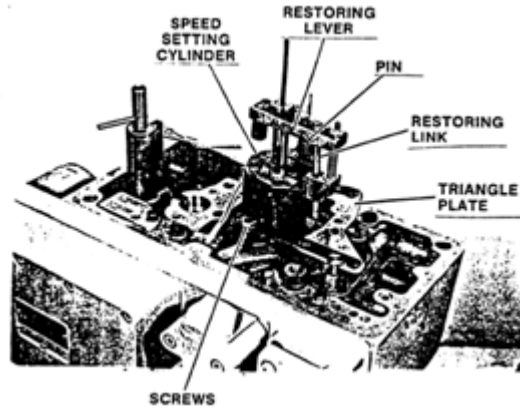

Figure 5-7. Triangular Plate and Speed Setting Cylinder Installed on Column
5. Remove triangular plate and speed-setting cylinder (Figure 5-7).